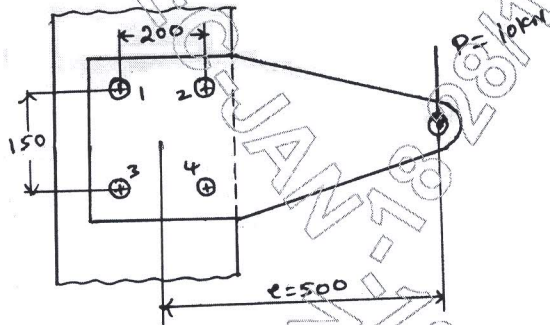

Fig.Q9(a)
- 9 a. The structure in Fig.Q9(a) is subjected to eccentric load  $P = 10$  kN with eccentricity of 500 mm. All bolts are identical made of carbon steel having yield strength in tension is 400 MPa and factor of safety is 2.5. Determine size of bolt.